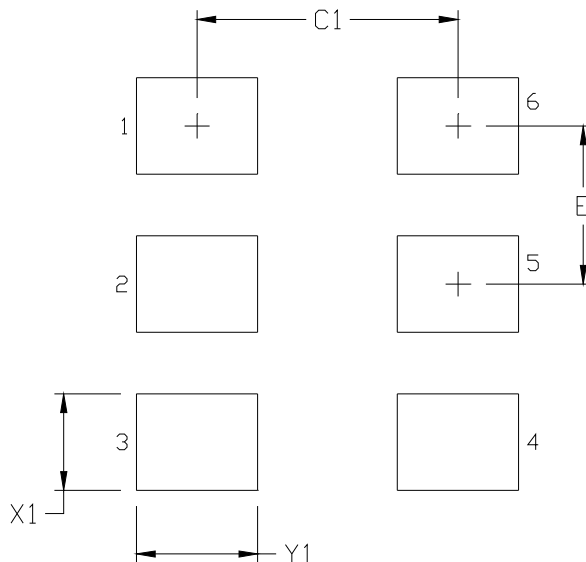

Figure 4. Si530/531 PCB Land Pattern
Figure 4 illustrates the 6-pin PCB land pattern for the
- Revised Figure 4 and Table 14 on page 11 to reflect the recommended PCB land pattern.